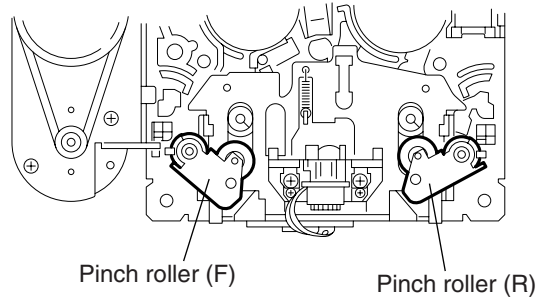

Fig.6
■ **Removing the pinch roller (F) and (R) (See Fig.6 to 8)**
- Prior to performing the following procedure, remove the side bracket (L), (R), cassette hanger assembly / cassette holder.